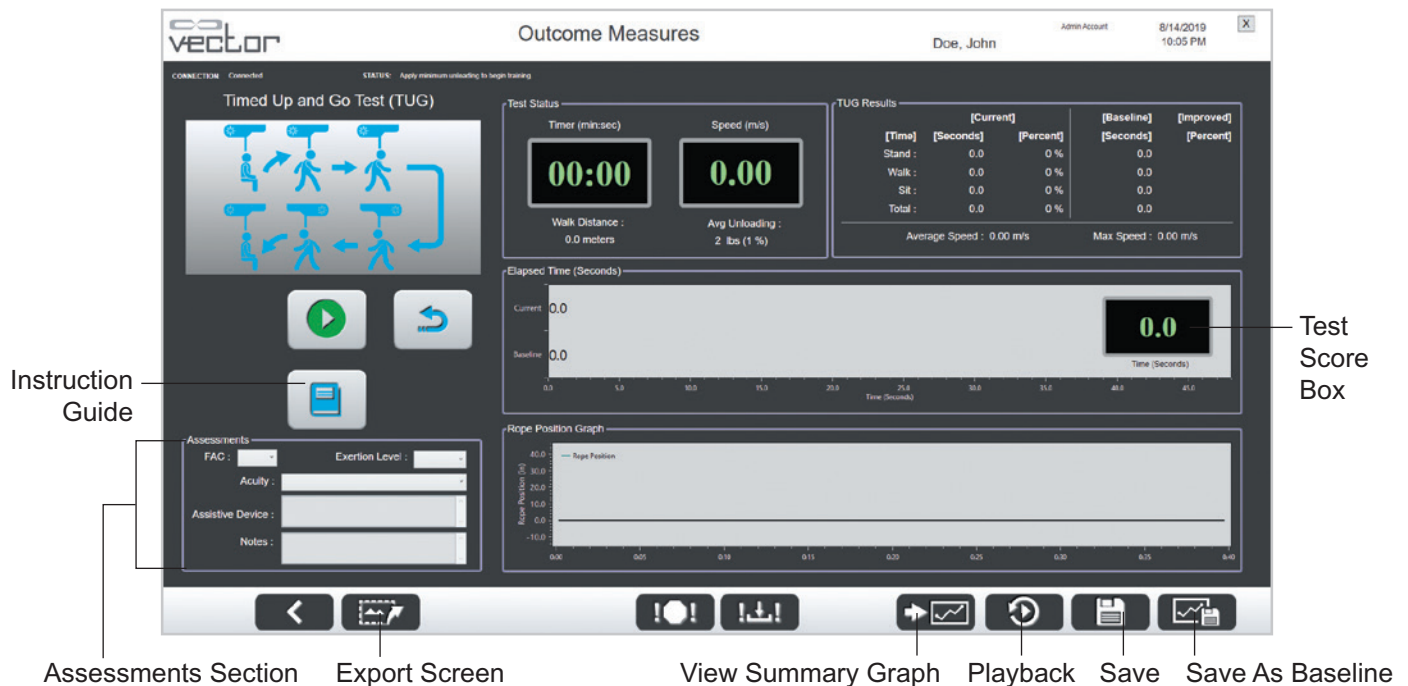

Figure 7-5: Outcome Measures TUG Test Screen
7. The test results and graphs are displayed on the screen. The TUG test time is displayed in the Test Score Box. To review the test, press the Playback button. See Figure 7-5.
8. Complete the Assessments section. See Figure 7-5.
9. **You must press the Save Button to save test results.** See Figure 7-5. If the button is not pressed before starting another test run or before leaving the screen, the current test run results will not be saved to the patient summaries.
10. To save the current test as a baseline for the Outcome Measures TUG Test press the Save As Baseline button. See Figure 7-5.
11. To export the current test screen as a screen capture image, press the Export Screen button. See Figure 7-5. When the Export Screen button is pressed, the software saves the test screen as a PNG file and a Save As window will appear. Select the location to save the file and press the Save button.
Note: When pressed, the Instruction Guide button found on the Outcome Measures TUG Test screen, opens a window that displays the TUG Test Instructions from this guide. See Figure 7-5.